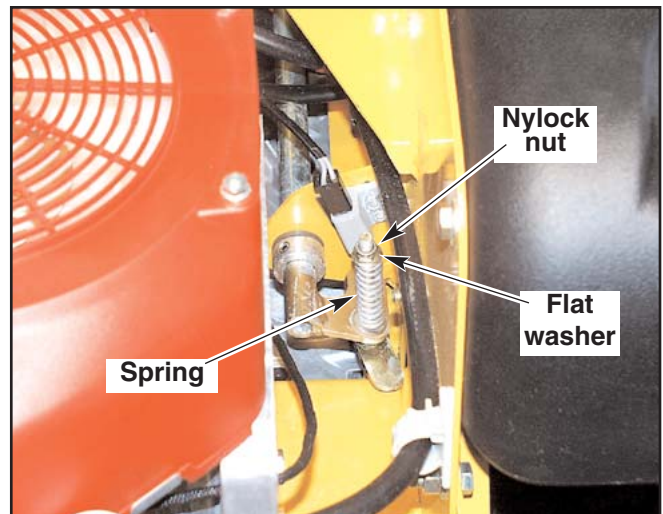

Figure 9-29
4. Tighten the nylock nut on top of the spring assembly until it is touching the top flat washer. **Do not** compress the spring. Fig. 9-29